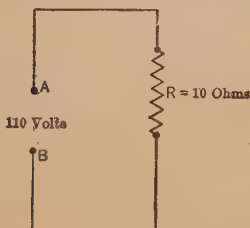

FIG. 24. A coil of 10 ohms across a 110-volt circuit.
**15. Series Circuit. Resistance.** In Fig. 24, a resistance coil  $R$  of 10 ohms is connected across the terminals of a 110-volt line. By Ohm's Law the current must equal  $\frac{\text{volts}}{\text{ohms}} = \frac{110}{10} = 11$  amperes.